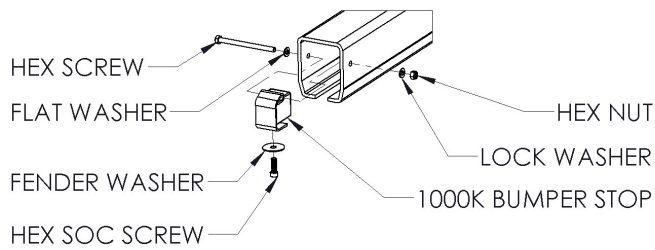

Figure 7a: Bridge End Stop
11. Adjust the U hanger to cross travel mounting brackets (item 1 on page 16) so they are in a vertical plane when the bridge is at 90 degrees to the runway beams, reference the included bridge assembly drawing to verify the proper location. Tighten the hex head set screws item 21 on page 16. The cross beam support bracket has 6 internal hex locking screws, *the 6 screws on the bracket can be secured with a thread locking compound if required.* **STEP 11** is not necessary for 4000 and 4400 lb. capacity bridges because the U hanger mounting brackets are welded components to the bridge removing the necessity to adjust the end bracket.
12. Install one bridge end stop. See figures 7a and 7b.